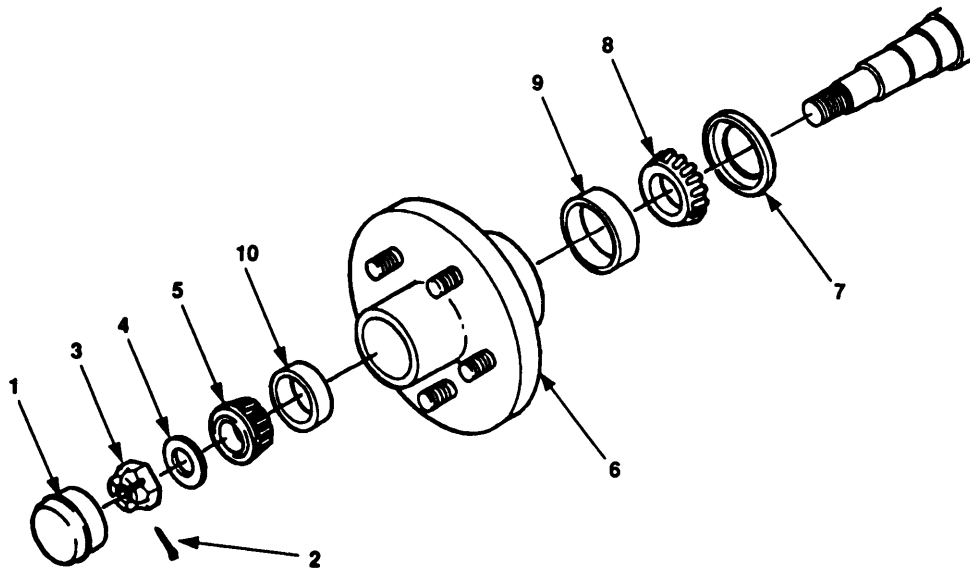

Figure 4-58. Wheel Bearing Maintenance.
- a. Remove dust cap (1, figure 4-58).
- b. Remove cotter pin (2), castle nut (3), and washer (4).
- c. Remove outer bearing cone (5).
- d. Remove hub (6); then remove seal (7), inner bearing cone (8), inner cup (9), and outer cup (10).